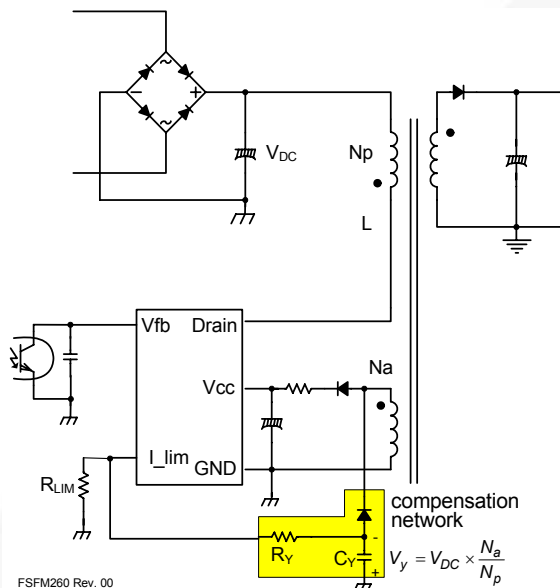

Figure 18. Constant Power Limit Circuit
2.3 Constant Power Limit Circuit: Due to the circuit delay of FPS, the pulse-by-pulse limit current increases a little bit when the input voltage increases. This means unwanted excessive power is delivered to the secondary side. To compensate, the auxiliary power compensation network in Figure 18 can be used. R_{LIM} can adjust pulse-by-pulse current by absorbing internal current source (I_{FB} : typical value is 0.9mA) depending on the ratio between resistors. With the suggested compensation circuit, additional current from I_{FB} is absorbed more proportionally to the input voltage (V_{DC}) and achieves constant power in wide input range. Choose R_{LIM} for proper current to the application, then check the pulse-by-pulse current difference between minimum and maximum input voltage. To eliminate the difference (to gain constant power), R_y can be calculated by: